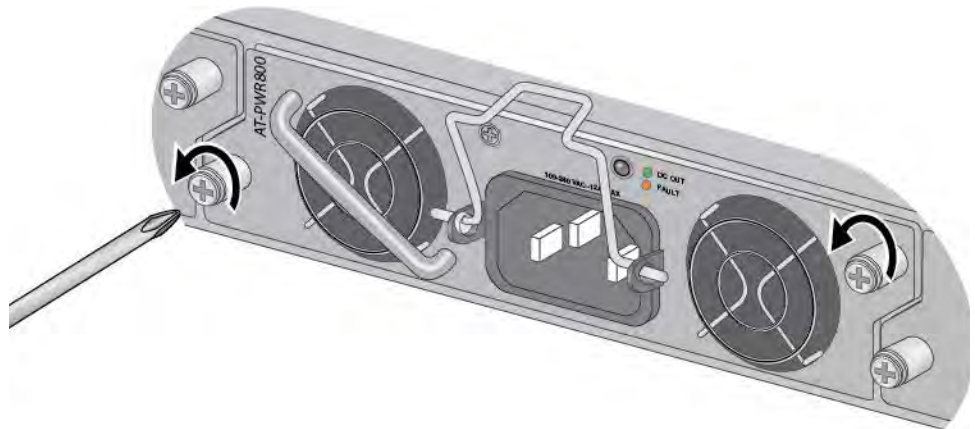

Figure 93. Loosening the Two Captive Screws
3. Loosen the two retaining screws on the power supply with a cross-head screwdriver. Refer to Figure 93.
8. Loosen the two retaining screws on the power supply with a cross-head screwdriver. Refer to Figure 93.